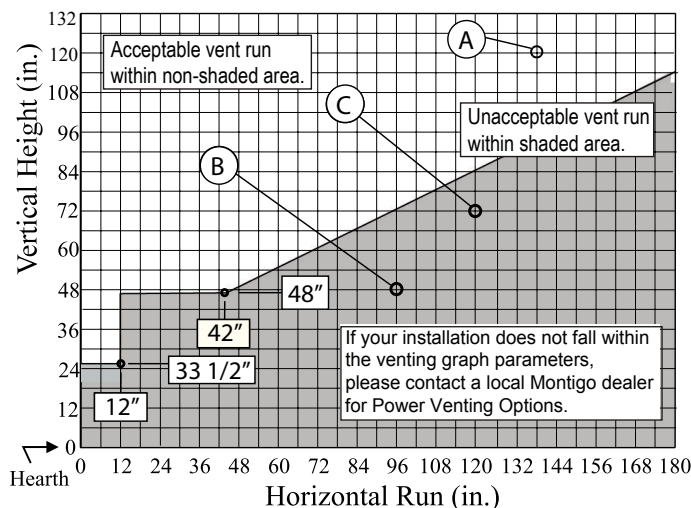

Figure 14. Side Vent Venting Graph for wall mounted terminations.
- Venting runs *must* fall within the limits set by the venting graphs, see Figure 14.
Measure the vertical height from the fireplace hearth to the centre of the termination and the horizontal run from the fireplace flue collar to the wall flange of the termination. Plot on the Venting Graph Figure 14 with an 'X'. If the 'X' falls on or above the top boundary of the shaded area, the installation is acceptable.
Figure 14b. Side Vented, wall mounted Multi-elbow termination installation. Installation for H*38DF*-ST must have a minimum vertical rise of 48". The vent run must comply with the Venting Graph for Side vent, wall mounted terminations, Figure 14.